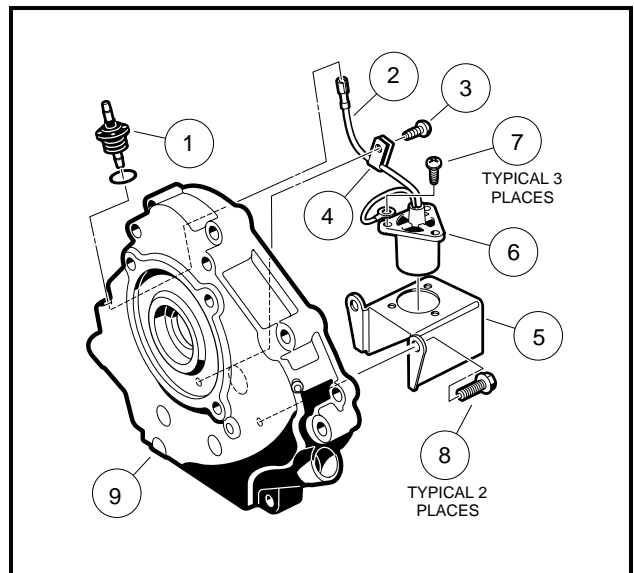

Figure 13-47 Oil Level Sensor
2. Disconnect the oil level sensor wire (2) from the cord connection (1) (**Figure 13-47, Page 13-24**).
3. Remove the screw (3) from the wire clamp (4).
5. If necessary, remove the three screws (7) that hold the sensor to the bracket (5).
1. If the oil level sensor was removed from the bracket, install sensor (6) into bracket (5) and secure with three screws (7) (**Figure 13-47, Page 13-24**). Tighten to 16.8 in-lb (1.9 N·m).
3. Connect sensor wire (2) to cord connector (1) (**Figure 13-47, Page 13-24**).
4. Install screw (3) through wire clamp and into crankcase cover. Tighten to 30 in-lb (3.4 N·m).